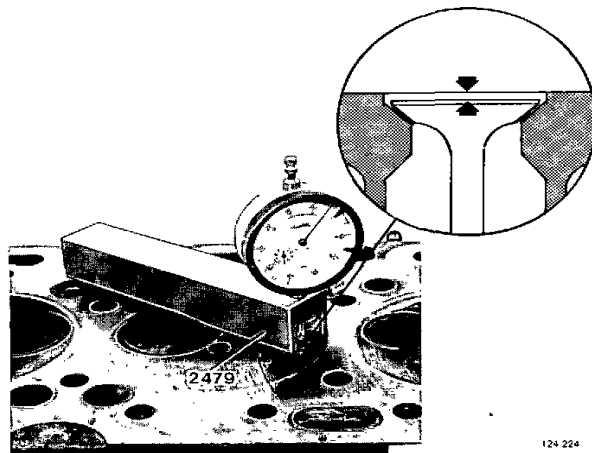

Fig. 39. Checking the distance between the cylinder head surface and the valves
2. Check that the distance from valve disc level to the cylinder head surface is not less than 0.7 mm (0.0276") for the 60 series, resp. 1.0 mm (0.039") for the 70 series. See fig. 39. If extra machining of the cylinder head is necessary the valve seat recesses must be milled down. The distance from the valve disc level to the cylinder head surface must not exceed 1.1 mm (0.0433") for the 60 series, resp. 1.4 mm (0.055") for the 70 series.